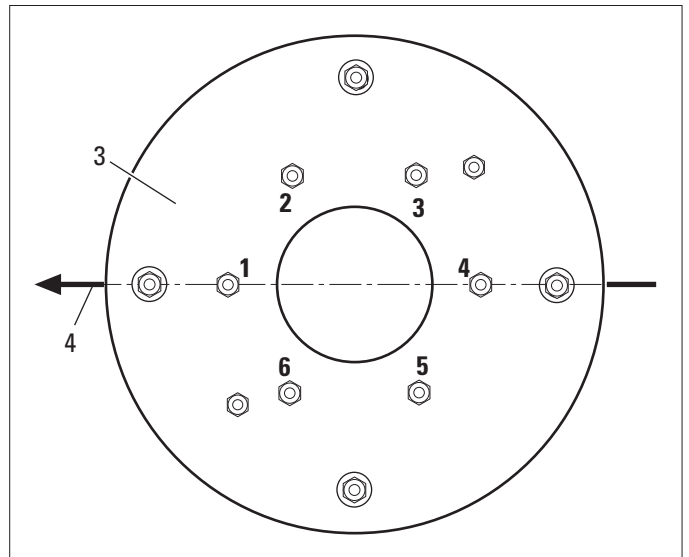

Fig. 4
In order to facilitate mounting of the Mini Mount, the fastening screws on the bottom of the ceiling plate flange (3) should be numbered. The number 1 must point in the direction of the main axis (4), the number 4 lies directly opposite (Fig. 4).